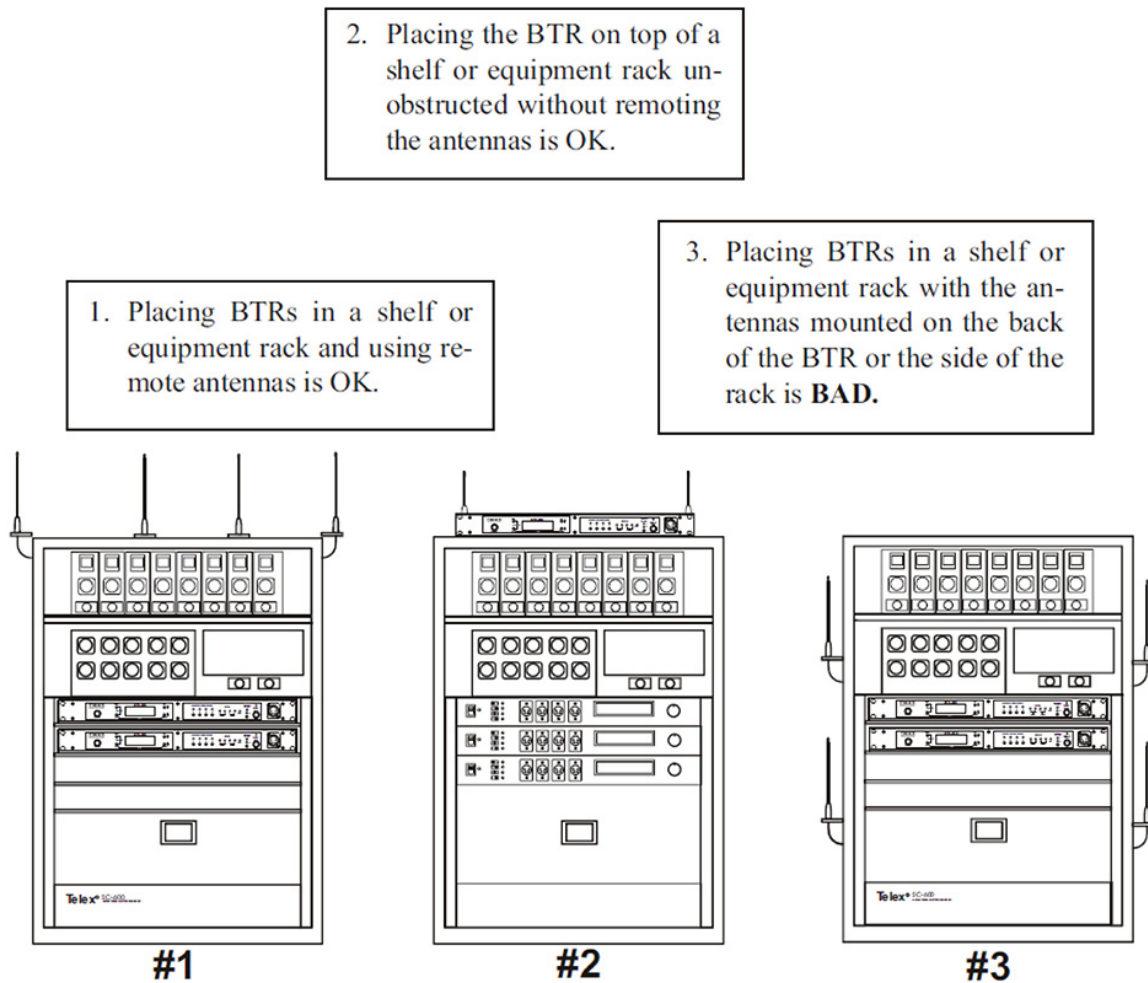

FIGURE 17. Antenna Placement
**IMPORTANT:** DO NOT mount the base station 1/2-wave antennas on or next to: metal, such as beams; walls with metal studs; or equipment racks, etc. This also applies to antennas assembled directly to the Base Station. Mounting antennas near metal detunes the antennas, which can result in noise or loss of RF signal at the Base Station. See Figure 17.